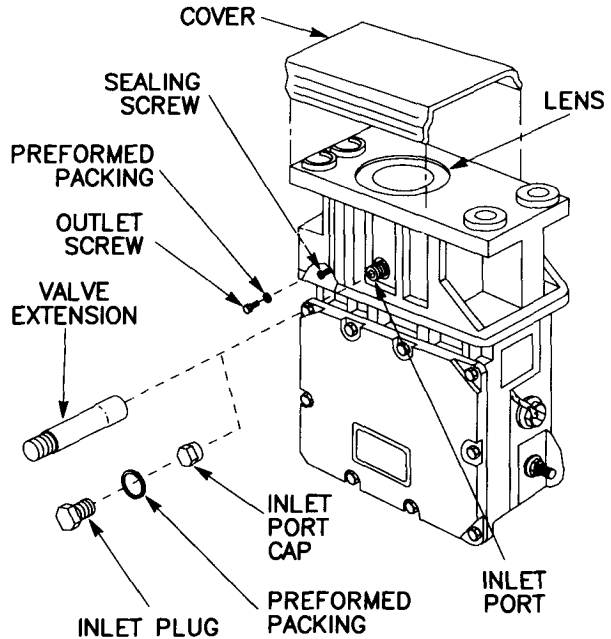

Figure 3-40 Laser Rangefinder Optical Cavity
(1) Optical Cavity (fig. 3-40).